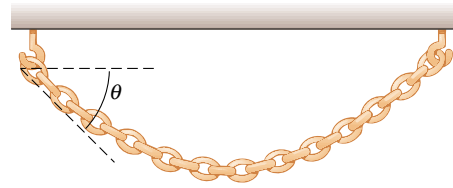

Figure P12.19
19. A flexible chain weighing 40.0 N hangs between two hooks located at the same height (Fig. P12.19). At each hook, the tangent to the chain makes an angle $\theta = 42.0^\circ$ with